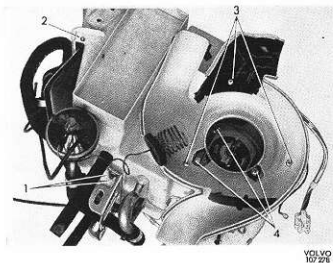

Fig. 8-75. Disassembling central unit
2. Unscrew the two left screws for the tunnel bracket (1, Fig. 8-75).
3. Remove the air intake left shutter shaft locking (2).
4. Undo the screws (3) for the inner end and lift off the end.
5. Undo the screws for the fan motor retainer (4).